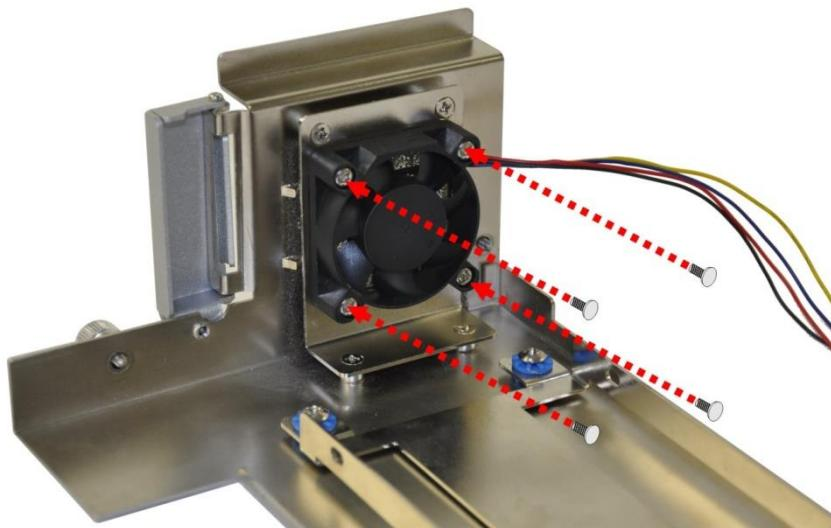

Figure 3-5: System Fan Installation
Step 3: Attach the system fan to the TANK-870-Q170 Series and secure it by four retention screws (**Figure 3-5**).